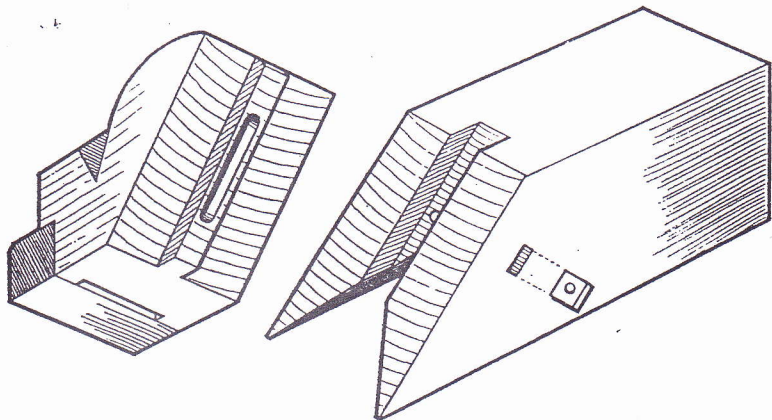

FIG. 2. PLANE BODY.
**T**WO ways in which the plane would come in handy are shown in Fig. 2. In the one the plane is smoothing right up to an internal corner, and in the other is a stopped chamfer in
FIG. 2. EXAMPLES OF WORK FOR WHICH PLANE IS SUITABLE. Note that a strip of metal is placed beneath the thumb-screw to cover the slot in the cutter. The knob is either square as shown or it can be turned.
FIG. 1. A. Worn Spokeshave. B. New mouth and fixing screws. FIG. 2. Gauge with refaced fence. FIG. 3. A. Jack plane with wood mouth. B. Iron mouth to smoothing plane. C. Section through iron mouth. D. Slot screwing. E. New sole for Jack plane. FIG. 4. Chisel handle. Start at A, form loop C, back to A, wind round handle, pass end B through loop C, and pull end A.